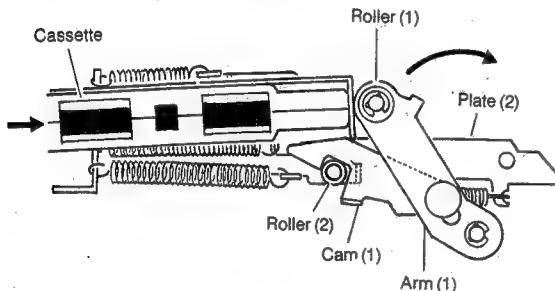

Fig. 1
1. Cassette insertion causes Arm (1) to move in the arrowed direction (see Fig. 1).